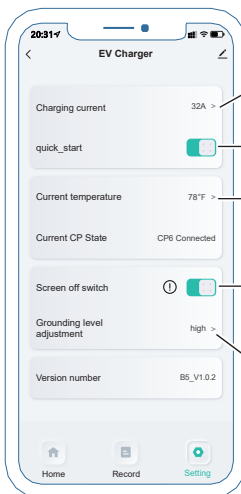

Fig.2
- Tap the “Settings” icon to enter the settings interface. For detailed operations, please refer to Fig. 2.